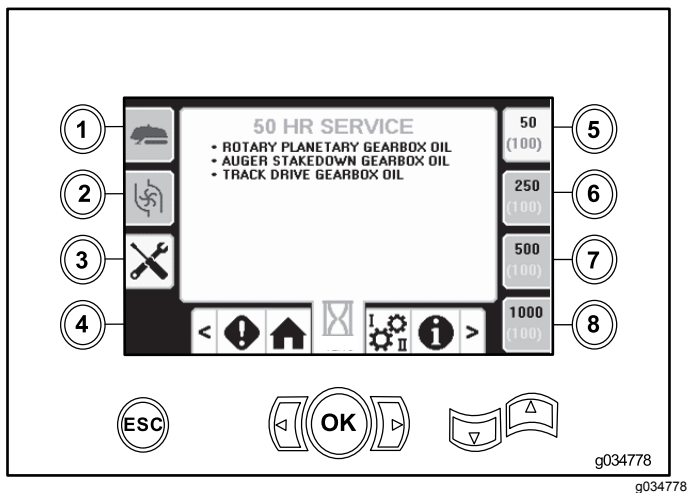

Figure 51
- Button 5—50-hour (Figure 51)